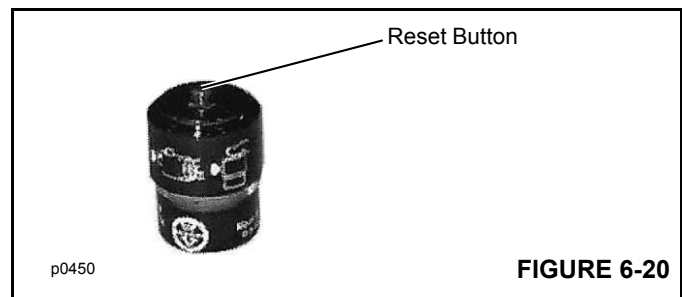

FIGURE 6-20
5. Reset the air cleaner restriction indicator by pushing in the reset button (Figure 6-20).